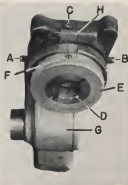
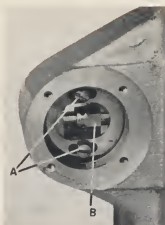

Fig. 6—Side trimmer adjustment assembly.
Fig. 15—Saw clamp shaft stroke adjustment.
thinner than either top or bottom. This condition is attained by causing the side cutter to assume a very small angle in relation to the side of the slug so that all trimming is done by the leading edge of the cutter. This adjustment should be necessary very rarely, such as after dismantling and replacing of the side trimmer assembly, and is accomplished by adjusting cap screws (A) and (B) Fig. 6. Examine the slug after trimming and determine from the curvature of the trimmer marks on the ribs whether the leading or trailing edge of the cutter is making the final cut. Turning out on screw (A) and in on screw (B) will cause the trailing edge of the cutter to project farther. Continue the adjustment a quarter turn at a time until marks of both leading and trailing edges can be seen on the same slug. Make sure that both screws (A) and (B) are set up snugly at this point, then turn screw (B) out one-quarter turn and turn screw (A) in the same amount to a firm seating. This will eliminate the marks from the trailing edge of the cutter and provide the optimum setting.
This adjustment is also rarely necessary but when required is accomplished as follows. Cast and trim five slugs. Measure them all together accurately top and bottom on all ribs, securing the average of all readings. If the bottom of five slugs together measures a total thickness from .0005 to .001 greater than the top, the adjustment is correct for optimum operation. Should the difference be more than this, or if the top of the slugs is thicker than the bottom, adjust top and bottom capstan screws (C) and (D) Fig. 6 to reach about this reading. Remember that the screws must be firmly seated, and that in changing them one screw must be turned out and then the opposite one turned in by a corresponding amount. Turning out on the upper screw (C) and in on the lower screw (D) will make the slug thinner at the top and thicker at the bottom, and vice versa.
The thickness of slug is correctly adjusted at the factory to slug casting machine standard of .014 in. to a point or .084 for 6 points, .168 for 12 points, etc., so that when the correct setting is obtained for any one size, all the other sizes indicated on the point setting ring will also be correct. If adjustment becomes necessary, as when changing cutters, it is easily accomplished by turning the knurled ring (E) Fig. 6. Turning this ring away from
In case a new cutter is installed, it will be necessary to reset the index ring as follows. Back the adjusting ring out counter-clockwise about a full turn and cast a slug. If no trim is shown, turn in a little at a time until the slug appears to be trimmed approximately correctly. Measure with micrometer and continue to adjust until the correct trim is obtained. Now loosen the set-screw, hold the core to prevent turning, and rotate the knurled aluminum ring until the set-screw is opposite the index mark (F) Fig. 6. Tighten set-screw and recheck.
SIDE CUTTER: To change the side trimming cutter, remove low slugger head and screws holding side cutter shield and remove shield after tripping latch (H) Fig. 6 at right-hand end of spindle to allow cutter to move to the right against the case. The point ring should be opened to 36-point position. Place a wrench on the flat of the saw shaft, and using a 30-pica slug and hammer tap against the teeth of the cutter in direction of normal rotation until loosened. With a long screwdriver remove the screw in center of the cutter. Work the cutter off its seat, turning the cutter and pushing it off a little at a time to avoid binding on the seat, which is a very close fit. Before replacing cutter clean seats thoroughly, making sure there are no particles of dirt which
The adjustment of the length of stroke of the saw clamp mechanism is enclosed in housing (G) Fig. 6. A detail view of this mechanism is shown in Fig. 15. To adjust, loosen the two screws (A) Fig. 15. With a pin inserted in holes, turn (B) counter-clockwise